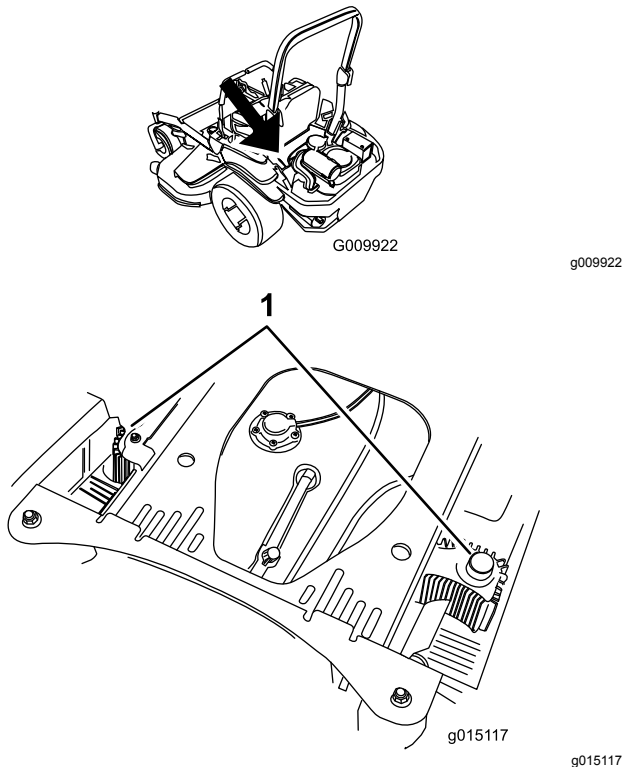

Figure 74
4. Clean the debris and grass from the hydraulic-unit shrouds (Figure 74).